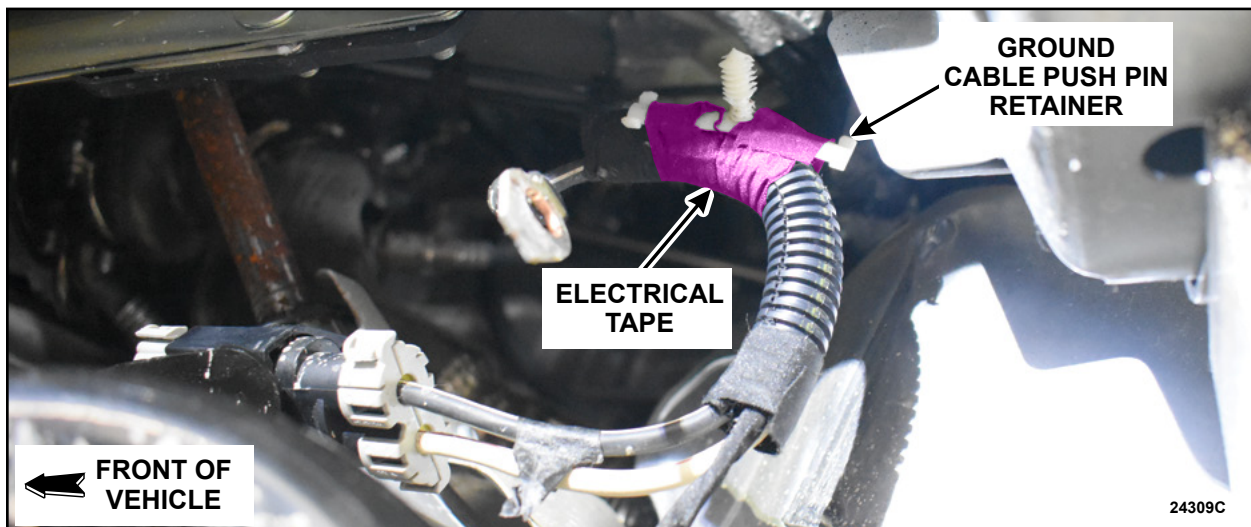

FIGURE 3
6. Remove the ground cable push pin retainer. See Figure 3.